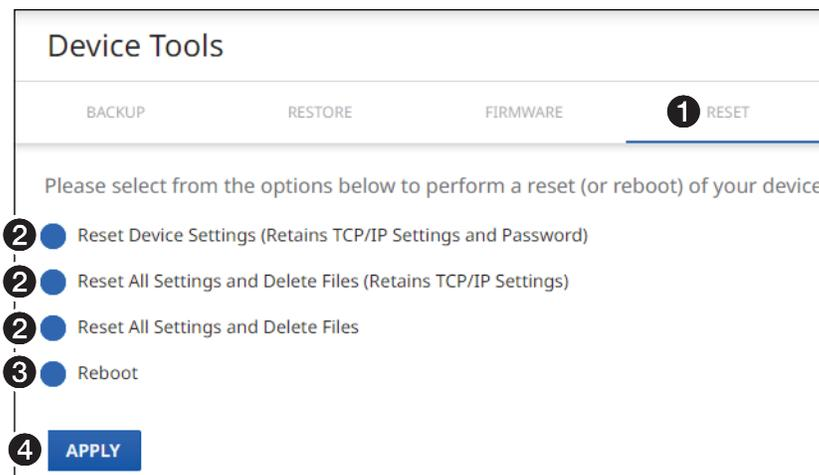

Figure 28. Tools – Reset Function
1. On the Device Tools page, click **RESET** (see figure 28, 1).
2. Select (click) a reset level (see figure 28, **2** on page 31) or **Reboot** (**3**).